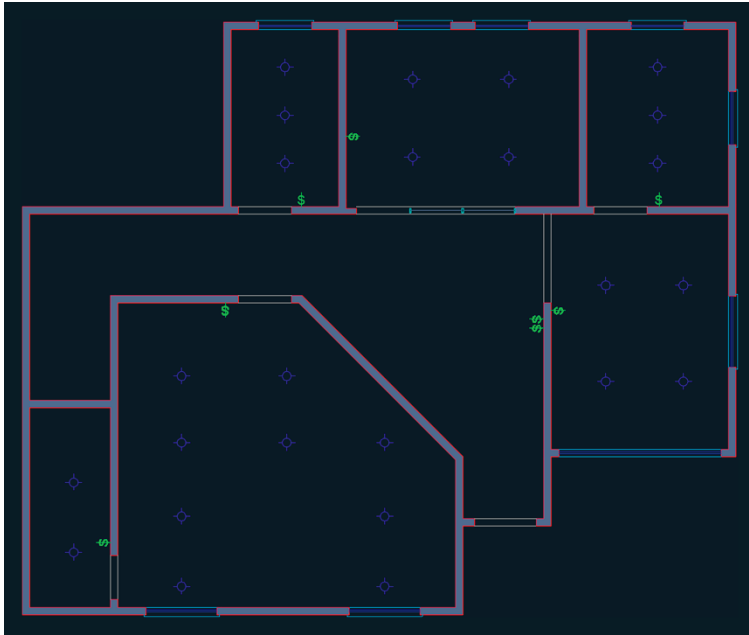

FIGURE 6.13 Reflected ceiling plan created by toggling layers off
- Choose Yes from the dynamic prompt. Press Esc to end the LAYOFF command. Figure 6.13 shows the result.